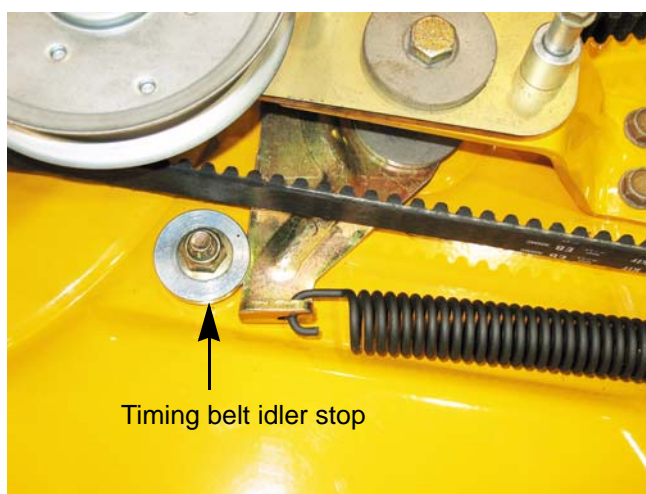

Figure 8.18
4. Remove the timing belt idler stop using a pair of 9/16" wrenches. See Figure 8.18.